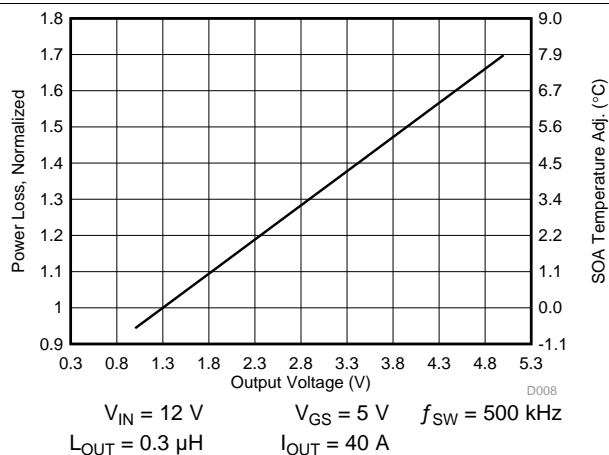

Figure 6. Normalized Power Loss vs Output Voltage
- Normalized power loss for output voltage ≈ 1.13 (Figure 6)
- SOA adjustment for output voltage $\approx 1.48^\circ\text{C}$ (Figure 6)